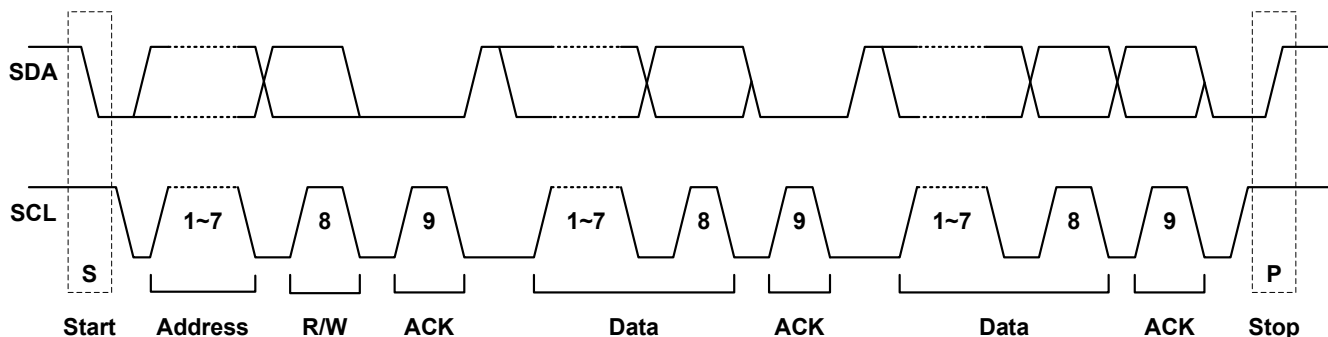

Figure 7: A Complete Data Transfer
Figure 7 shows the data transfer format. After the start command, a slave address is sent. This address is 7 bits long, followed by an 8th data direction bit. The data direction bit determines whether the transmission is a read (R) or write (W). A 0 indicates a write transmission, and a 1 indicates a read (a request for data). A data transfer is always terminated by a stop command, which is generated by the master device. However, if the master device still wishes to communicate on the bus, it can generate a repeated start command and address another slave device without first generating a stop command.